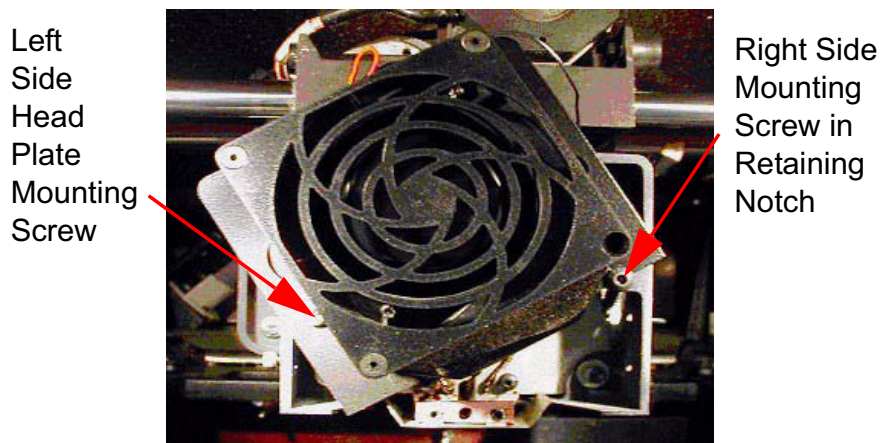

Figure 18: Head plate in shroud replacement position
2. Using a 1/8-inch hex wrench, back out the two head-plate mounting screws approximately 1/8 inch (see Figure 18). Do not remove the screws.
4. Pivot the right side of the head plate upwards, and rest the right side of the plate on the right mounting screw, as shown in Figure 18. There is a small notch on the bottom of the plate for this purpose.